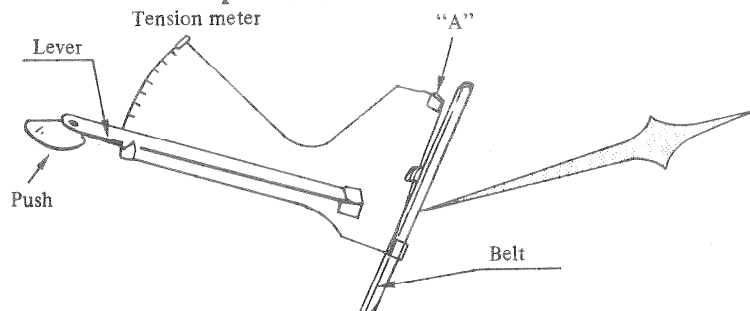

Figure 2.13 Tension meter
- (3) Install the tension meter, as shown in Figure 2.13. Turn the motor pulley 3 to 5 turns by hand before measuring the tension. Push up the lever with a finger as shown in Figure 2.13. Snap the belt. Read the value in pounds when the belt hits the tension meter (at location "A").
- (4) Adjust the belt tension by positioning the vacuum blower or air pump.